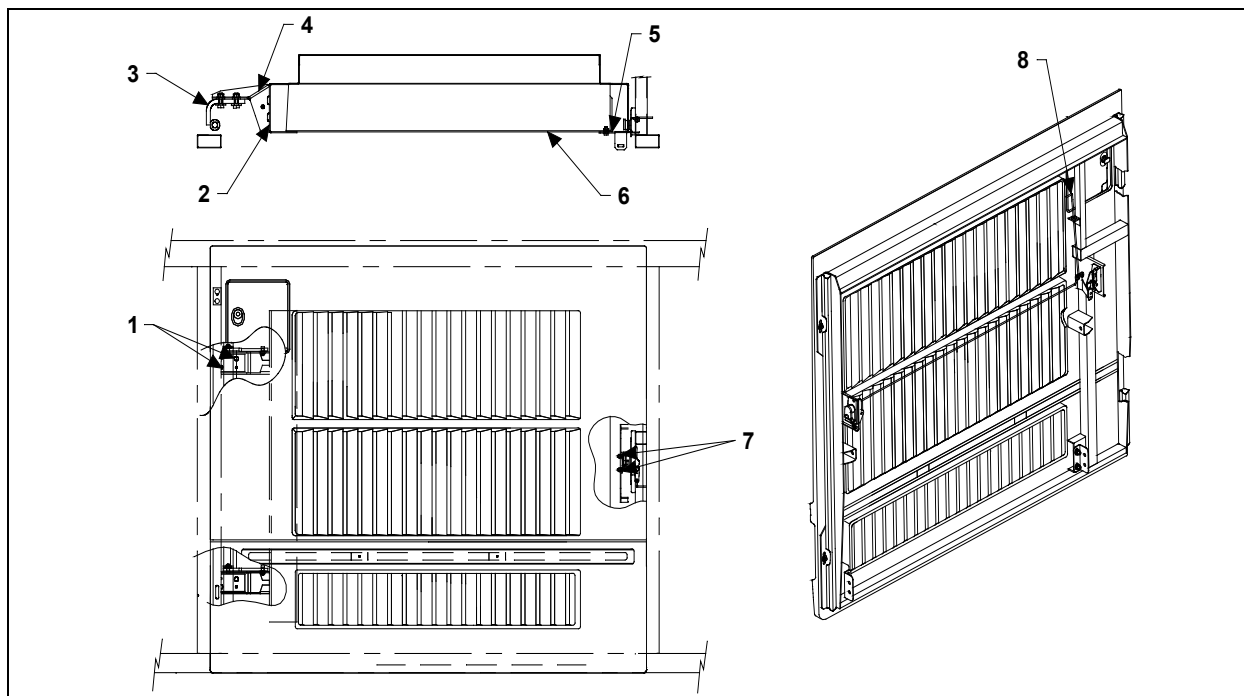

FIGURE 90: CONDENSER DOOR
5. Loosen bracket nuts holding the panel to condenser. Panel (6, Figure 90) may be shifted "IN or OUT", "LEFT or RIGHT" and "UP or DOWN".
6. Adjust condenser panel at brackets (2, Figure 90) and (5, Figure 90).
2. Loosen the nuts (1, Figure 90) holding the hinge (3, Figure 90) to hinge attachment (4, Figure 90). Loosening nuts (1, Figure 90) allows the condenser assembly to be shifted "LEFT or RIGHT" and "UP or DOWN".